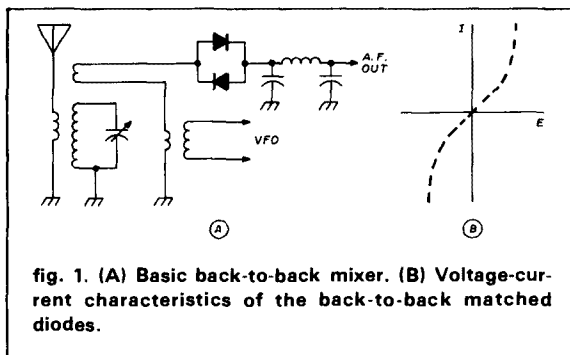

fig. 1. (A) Basic back-to-back mixer. (B) Voltage-current characteristics of the back-to-back matched diodes.
- formant — Regions of a sound spectrum in which certain of the harmonics of laryngeal sound are passed with minimal attenuation (that is, areas of greatest amplitude). They are seen in the dark bands of fig. 1 and the peaked areas of fig. 3.
fig. 1. The K5BDZ TVI filter. The capacitors are 20-pF variable ceramic units. Coils L1 and L3 are forty turns No. 30, closewound, 1/8-inch diameter. Coil L2 is twenty-two turns No. 30 closewound, 1/8-inch diameter.
Bill, K5BDZ, has used an interesting TVI filter for a number of years with good success. It is the basic *handbook* filter which has been around for a number of years, except that Bill has changed the fixed capacitors to variable ones (fig. 1). The filter can be made up on a piece of perf-board for a trial run and later placed in a shielded box, if desired. The filter is installed at the 300-ohm TV receiver antenna terminals, or close to the tuner. Simply adjust the trimmer capacitors for maximum TVI rejection. If the filter is in a box, holes drilled in the cover will permit adjustment.
Oscillator stability of better than 3 parts per million over a temperature range of -20 to +60 degrees C results from using the Trans-Tech dielectric. This type D8512 material has a Q_u (unloaded Q) of over 3000 at 10 GHz and is responsible for the high stability. Fig. 1 shows a rough selection of material size for a given aspect ratio (diameter/height ratio) versus frequency. Final dielectric size will depend on what